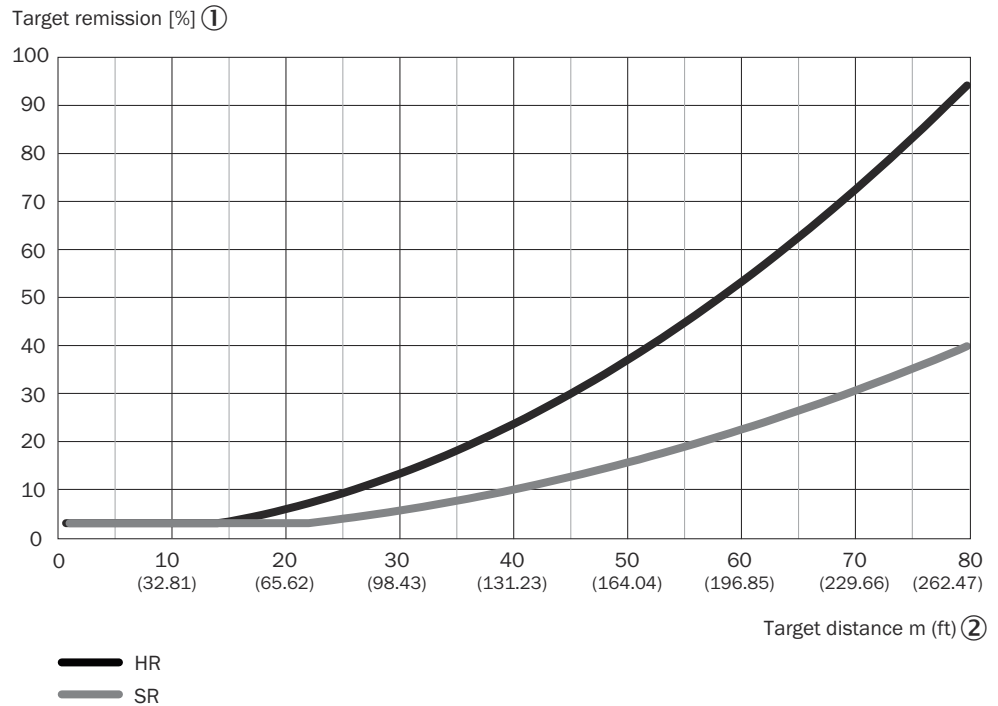

Figure 14: Scanning range as a function of the target remission
- ① Remission factor of the target [%]
- ② Object distance [m]
Example for see figure 14, page 25: Up to a distance of 15 m, the LMS5xx (HR) can detect objects with a remission factor of 3% or higher. At a distance of 80 m, only objects with a remission factor > 95% are detected reliably.